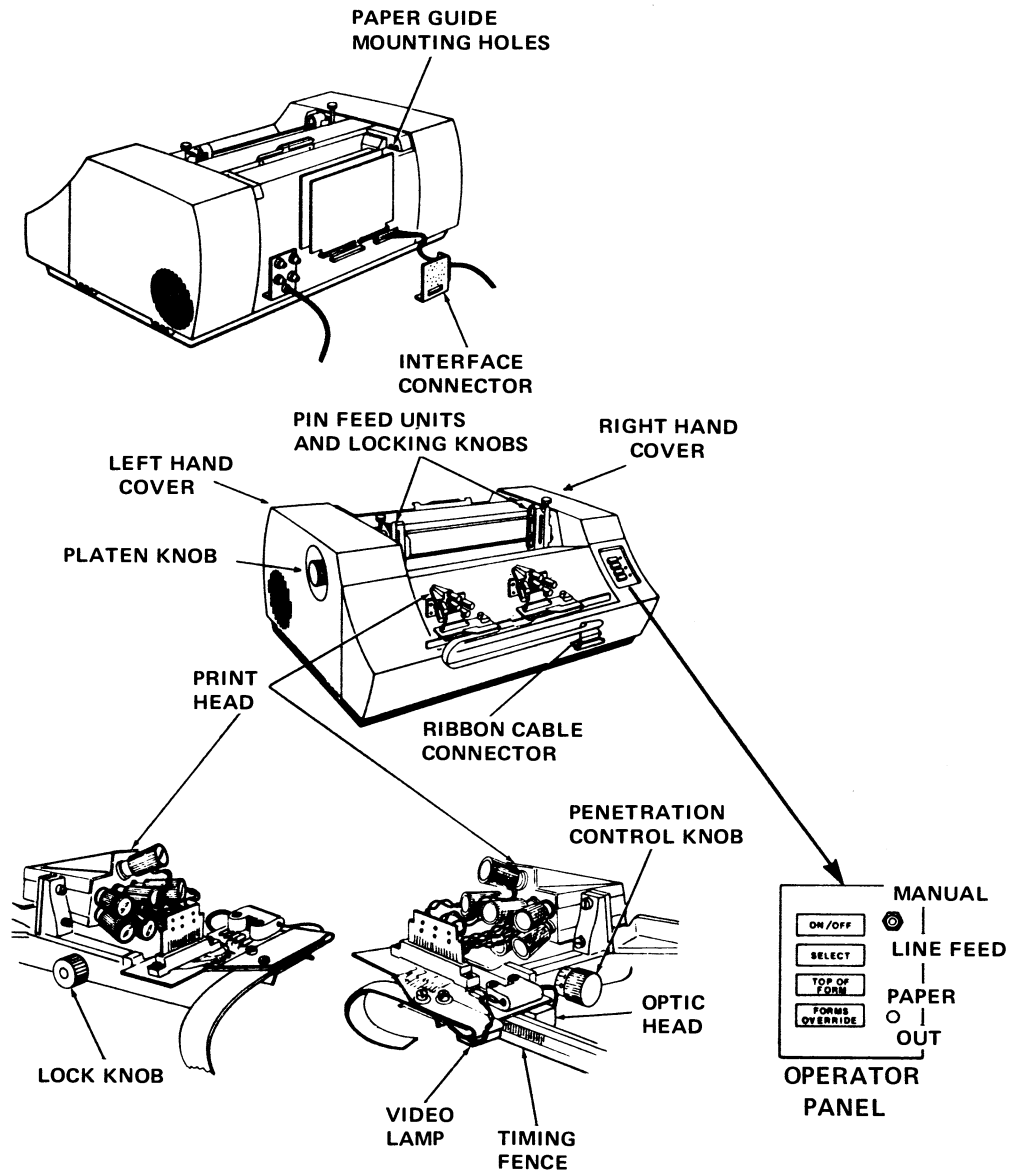

Figure 3. Internal Mechanisms of the Model 2261
1. Slide continuous-form pin-feed paper into the slot in the back of the Printer until it comes out between the pin-feed mechanisms (see Figure 3).
2. Open the front cover of the Printer and find the Print Heads (see Figure 3).